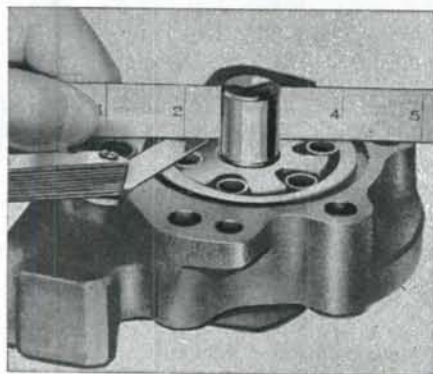

Fig. FO16 — Maximum clearance between rotor and cam ring is 0.0016 when measured as shown.
Wash all parts except the sealed roller bearing (21) in a suitable solvent and inspect as follows: Check bushings in housing and cover and if excessively worn, renew housing and/or cover as bushings are not available separately. Inspect cam ring, rotor and rollers for excessive wear. Renew rollers if they are scored or out-of-round. Check the length of rollers and thickness of rotor and if rollers are more than 0.0008 shorter than rotor thickness, renew rollers. Place cam ring and rotor in pump housing. Place a straight edge across machined surface of housing and use a feeler gage to measure between straight edge and rotor as shown in Fig. FO16. If clearance between cam ring and rotor exceeds 0.0016, renew rotor. A power steering pump repair kit which contains the cam ring, rotor and rollers is available for service.